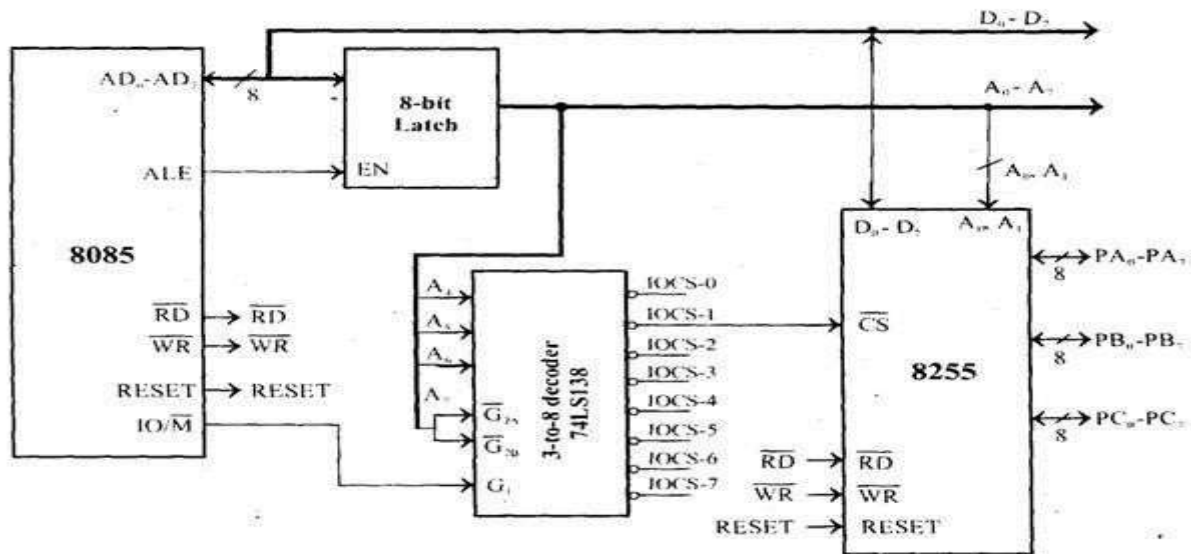

Fig 3.7. Interfacing 8255 with 8085 processor
- ▮ The address lines A4, A5 and A6 are decoded to generate eight chip select signals (IOCS-0 to IOCS-7) and in this, the chip select IOCS- 1 is used to select 8255 as shown in Figure 3.7.